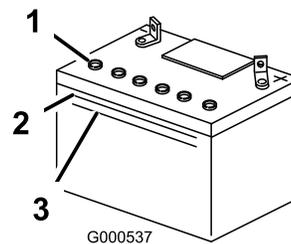

Figure 40
1. Look at the side of the battery. The electrolyte must be up to the **upper** line (Figure 40). Do not allow the electrolyte to fall below the Lower line (Figure 40).
3. Remove the vent caps from the battery (Figure 40).
4. Slowly pour distilled water into each battery cell until the electrolyte level is up to the Upper line (Figure 40) on the battery case.
5. Wait 5 to 10 minutes after filling the battery cells. Add distilled water, if necessary, until the electrolyte level is up to the Upper line (Figure 40) on the battery case.